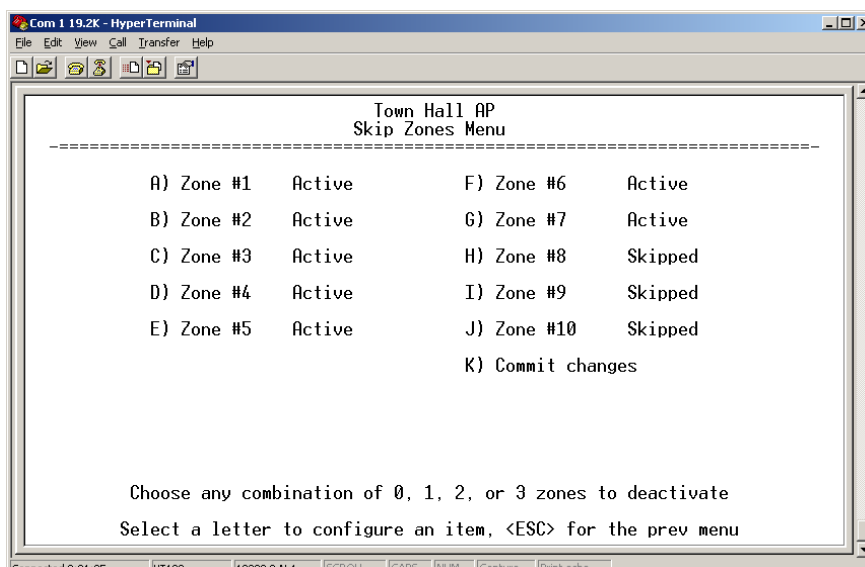

Figure 3-22. Skip Zone Options Submenu
- **Skip Zones** (*Does not apply to ESS-II. Editable at AP Only.*)—This selection brings up a submenu (Figure 3-22) that displays the current utilization of zones. Each zone consists of eight RF channels. In some instances there may be a part of the spectrum used by another system, that results in “continuous” or “persistent” interference to your system. To alleviate this form of interference, the transceiver may be programmed to “block out” affected portions of the spectrum using the Skip Zones Menu.
Figure 3-22 displays the utilization of 10 zones, each having eight RF operating frequencies. Zones can be toggled between **Active** and **Skipped** at Access Point units by first keying in the letter of the zone to be changed, and then pressing the spacebar to toggle between the two options for each zone. Select the **Commit Changes** menu item to implement changes. These changes will be forwarded to all units in the network through the Access Point's beacon signal.